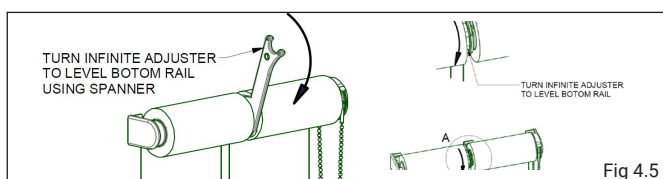

Fig 4.5
5. To level the blinds: Use the Infinite adjuster spanner to rotate the adjustment nut on the female drive. Adjust the level on the slave blind until the bottom bar becomes level with the master blind. The levelling can be performed in both an UP or DOWN direction (Fig 4.5).